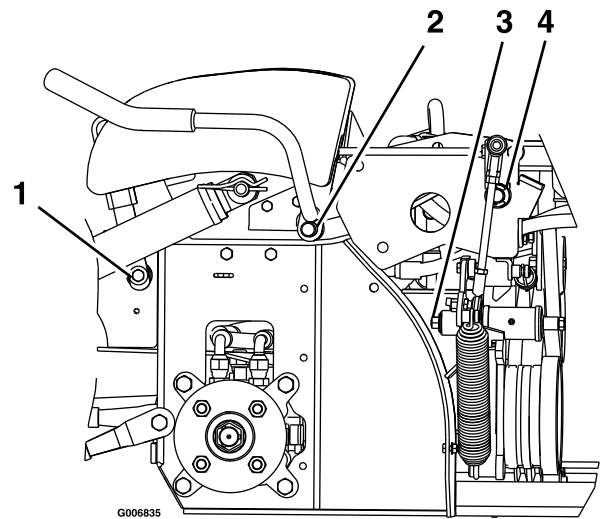

Figure 34
2. Lubricate the bronze bushings on the brake handle pivot with a spray type lubricant or light oil (Figure 34).